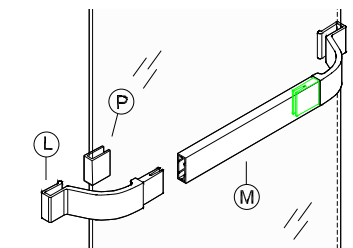

figure 7
9. Install the Towel Bar (M) on the outside panel as shown in the exploded view - sheet 1 (note that the Towel Bar is on the same side as the Nylon Rollers) . Begin by wrapping Vinyl (P) over glass edge as shown in figure 7. Use a block of wood or a rubber mallet to tap Towel Bar Brackets (L) over Vinyl (P) until seated. Position Towel Bar (M) as shown and secure with four(4) 638 Screws (N).